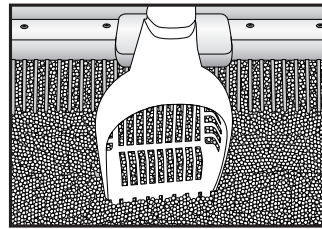

Fig. 4
- **Use only premium clumping litter.** Do not use non-clumping litter, crystal or pearl-like litters. Fill the LitterMaid™ Litter Box to **just below** the "Full Line". Do not overfill the unit or it will not operate properly. Use the fill line on the LitterMaid™ Triple-Action Tool to check that the litter is at the correct level in the center of the unit (Fig. 4).